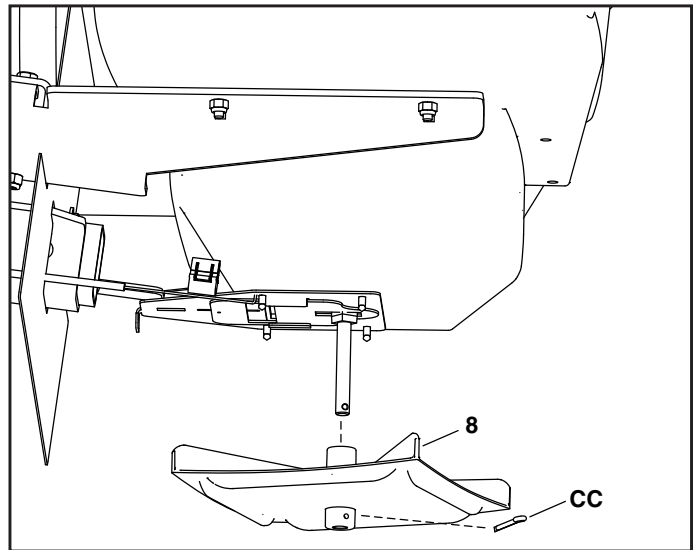

FIGURE 15
STEP 15: (SEE FIGURE 15)
- Slide the impeller (8) onto the impeller shaft (11) lining up the holes.
- Install one cotter pin (CC) through the hole on the bottom of the impeller (8) and then split the ends of the cotter pin.